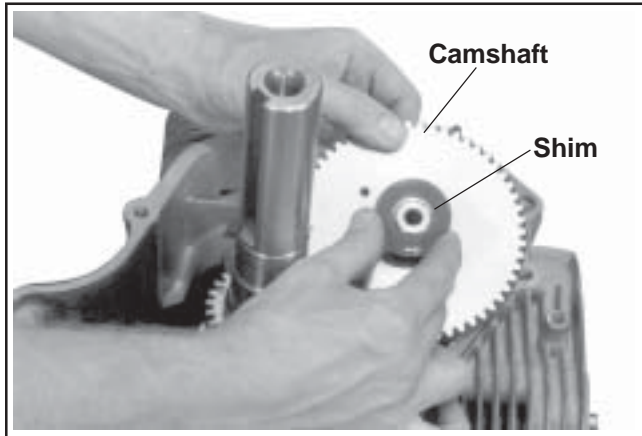

Figure 9-69. Removing Camshaft (Note Shim).
1. Remove the camshaft and shim. See Figure 9-69.